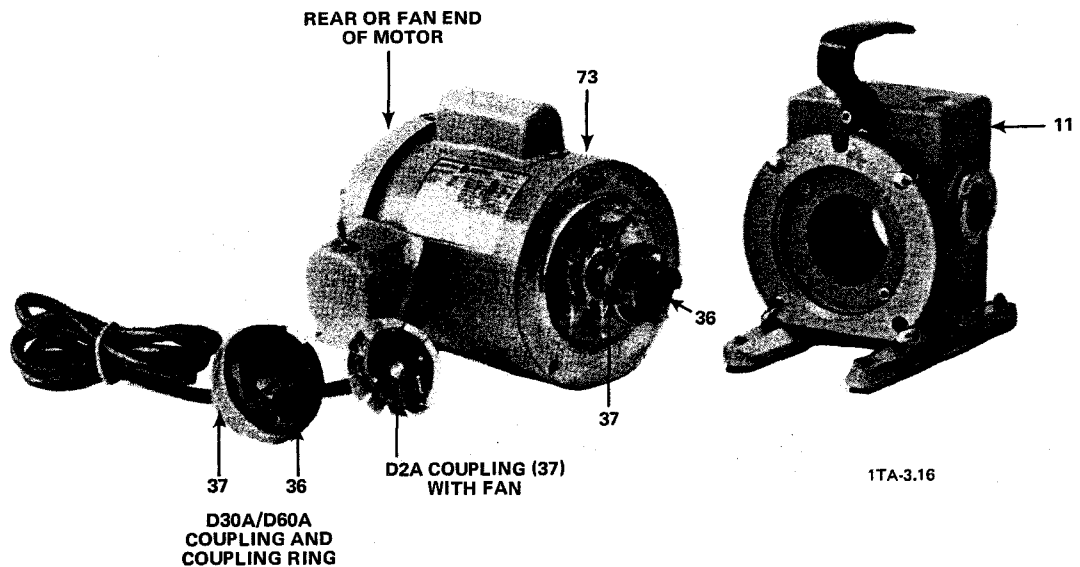

Figure 5-15. Coupling Housing and Motor (D2A Pump Model Shown)
- D-13** Using a U.S. standard wrench, unscrew and remove the four nuts and washers that attach the motor (73) to the coupling housing (11). Remove the motor from the coupling housing (see Figure 5-15).
- D-14** For the D2A, D4A, D8A, and D16A pump models only, pull the elastic element (36) off of the coupling (37) mounted on the motor shaft (see Figure 5-15).
E-7. Thoroughly clean the coupling housing (11), making certain that no dirt has accumulated in the crevices of the housing (see Figure 5-15).
- (b) Check if the fan on the rear end of the motor is rotating in the correct direction. Looking from the fan end of the motor, the fan and motor shaft should be rotating clockwise (see Figure 5-15).
b. Steps b(1) and b(2) below apply only to D30A, D60A, and D90A pump models with three phase motors.
- (1) If the pump has a new motor supplied by Leybold, a rotational lock bearing has been correctly installed at the factory to prevent the motor from rotating in the wrong direction. In this case, check the wiring of the motor as follows:
- (b) Check if the fan on the rear end of the motor (see Figure 5-15) rotates.
- (2) If the motor was not supplied through Leybold or the pump has an old Leybold supplied motor, grab the motor shaft or motor fan and attempt to turn it clockwise and then counterclockwise; then proceed as follows: